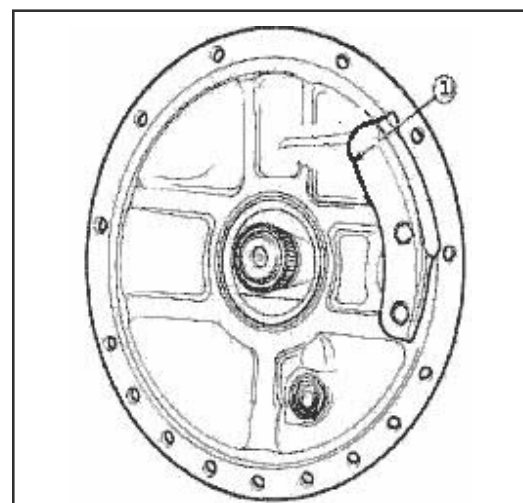

Fig. 11
20. Remove the thrust block from the left hand housing, if necessary. (Item 1 in Fig.11).